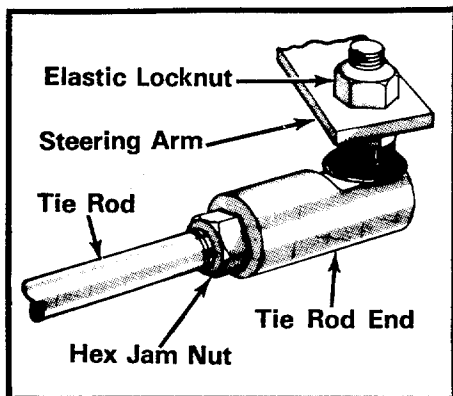

Figure 25
The caster (forward slant of the king pin) and the camber (tilt of the wheels out at the top) requires no adjustment. Automotive steering principles have been used to determine the caster and camber on the rider. The front wheels should toe-in  $\frac{1}{8}$  inch. See figure 25.)
- 1 Remove the elastic locknut and drop the tie rod end from the steering arm. (See figure 25.)